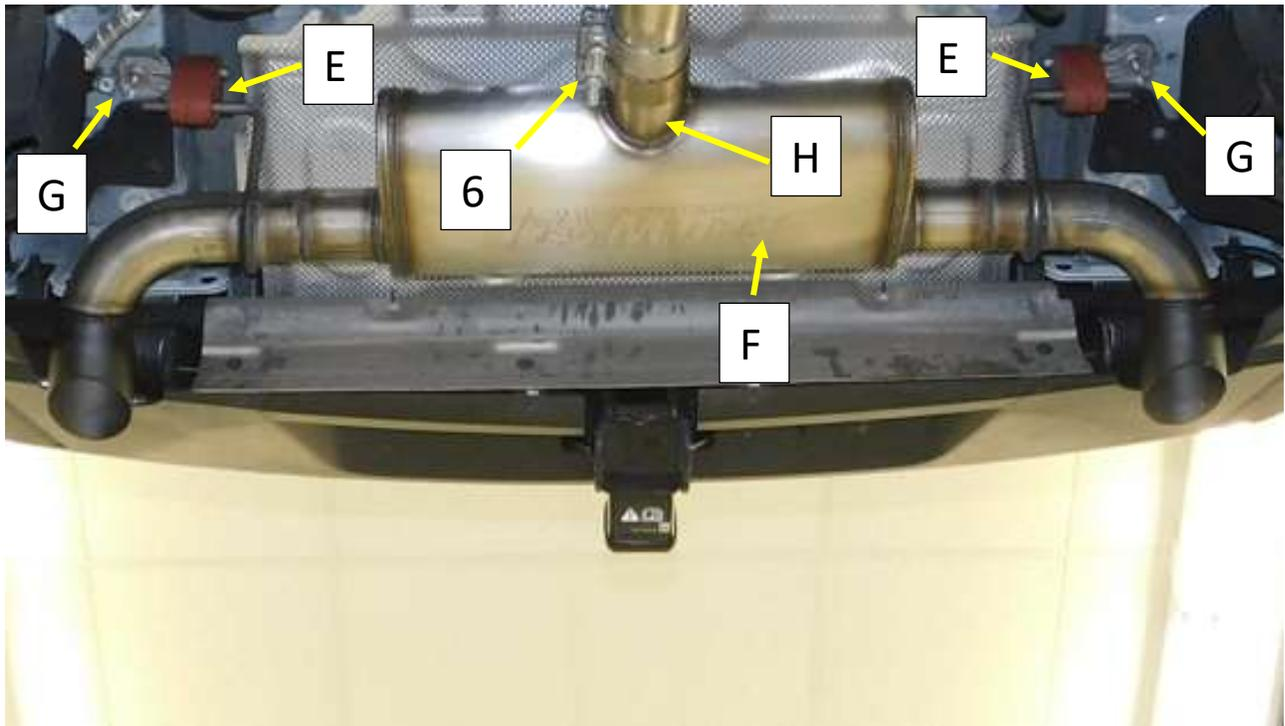

Figure 5
1. Remove the hanger assemblies from the OEM muffler and transfer them to the Flow FX Axle-Back exhaust hanger rods (**E**). **Fig.5**
2. Install the FlowFX muffler assembly into the vehicle (**F**) and install the M10 studs (x1 each side) into the hanger rod assembly's and tighten (**G**). **Fig.5**
3. Install the 2.5" band clamp (**6**) (largest of the three clamps provided) over the muffler inlet pipe (**H**). Bolt on the right-side nut facing the ground. **Fig .5**